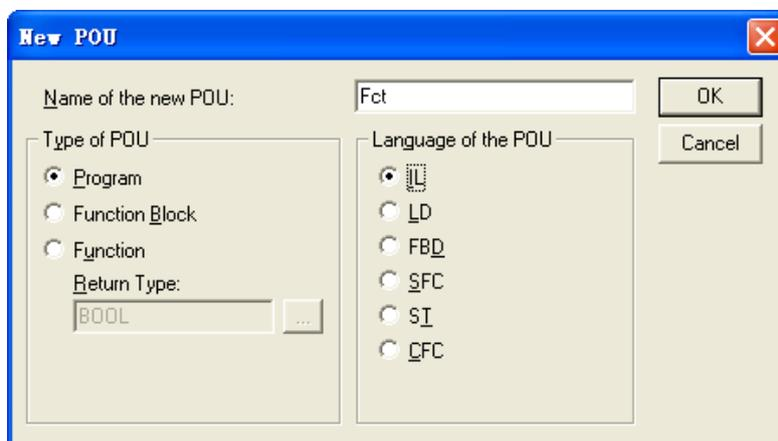

Figure 5-2-1 New Program
- Right click in the "POU's" tab in the object organizer, and select "Add Object". The default name of a new POU is "PLC_PRG" if there are no POU's. In the dialog "New POU", select "Program" in "Type of POU", as shown in figure 5-2-1.